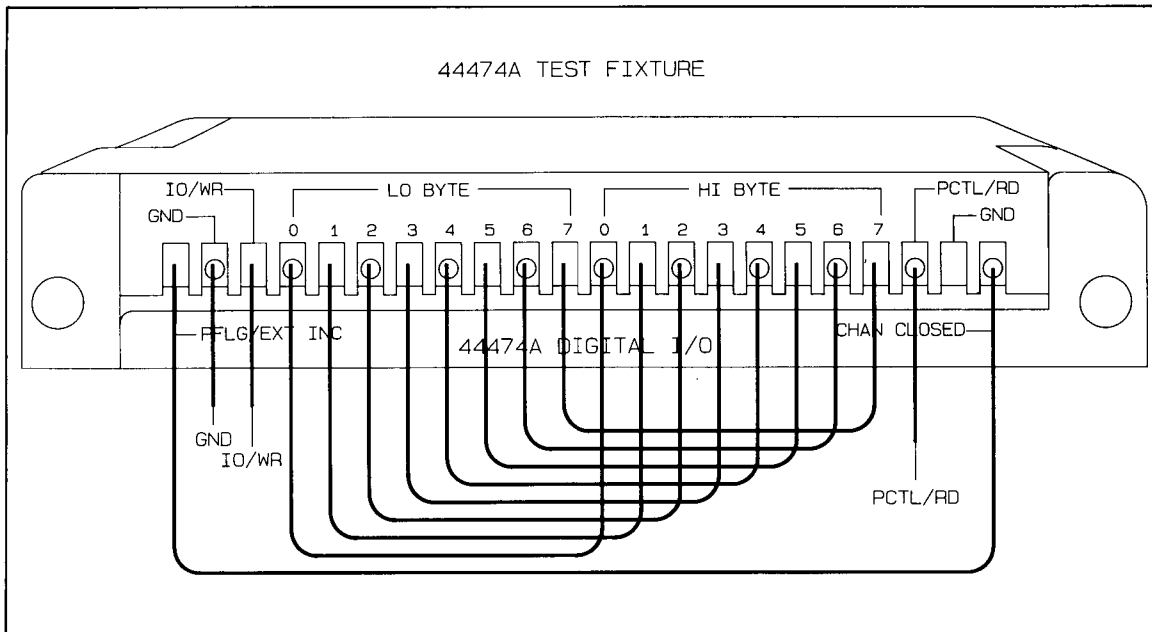

Figure 12-3 44474A Test Fixture
- a. A test fixture is available from Hewlett-Packard (HP part number 03488-66501). The advantages of this fixture are (1) it requires no assembly and (2) it can be used to test the 44470A, the 44471A, the 44473A and the 44474A plug-in cards without modification.
- b. A test fixture can be constructed by configuring an HP 44484A removable wiring block as shown in Figure 12-3. This particular test fixture can only be used to test the 44474A.